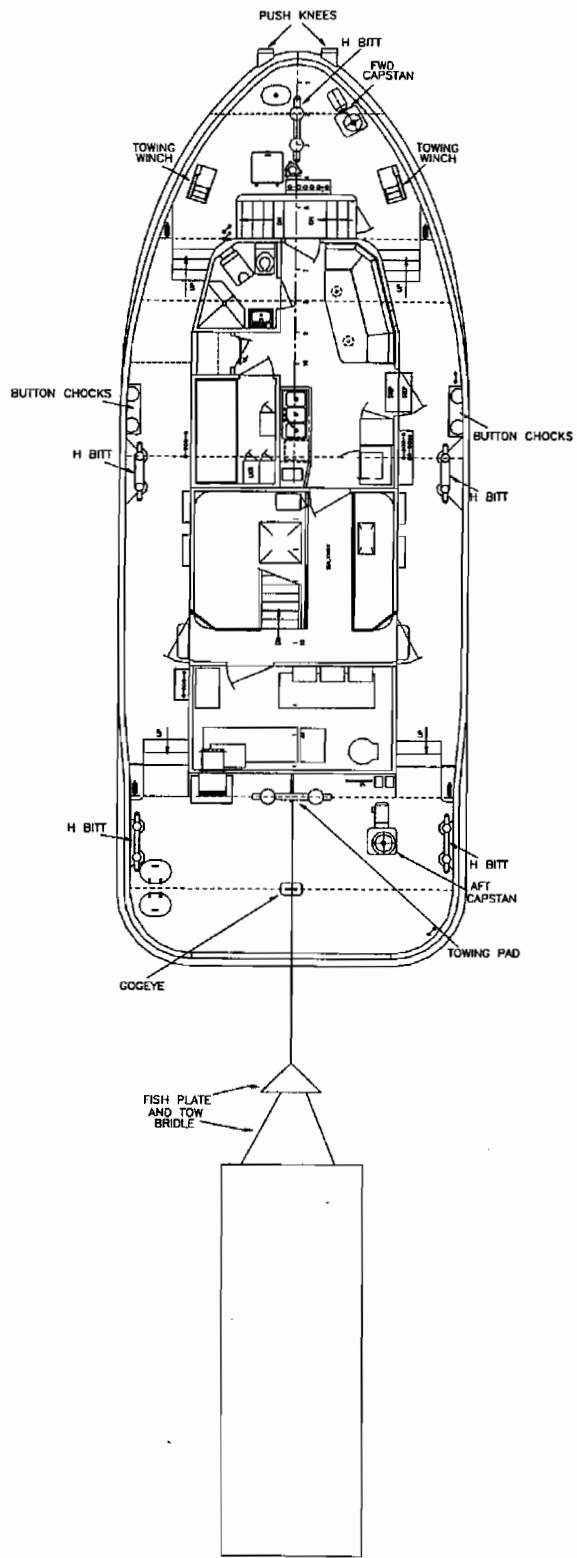

Figure 2-55. Stern Towing Arrangement
- b. Stern Towing. Stern towing consists of towing one or more barges using the aft towing pad. The capstan may be used to make up tow as needed. A typical arrangement for such an operation is provided in Figure 2-55.